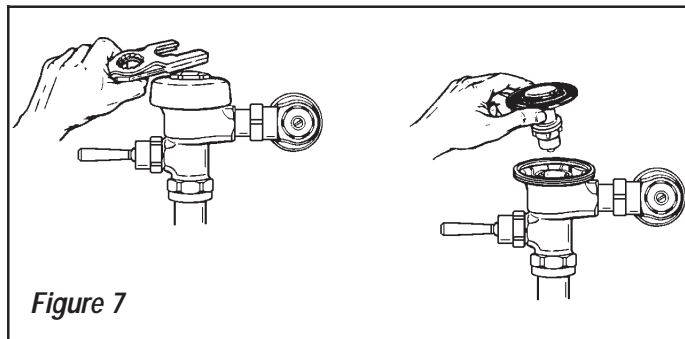

Figure 7
Step 5 - Flush Out Supply Line (Figure 7)